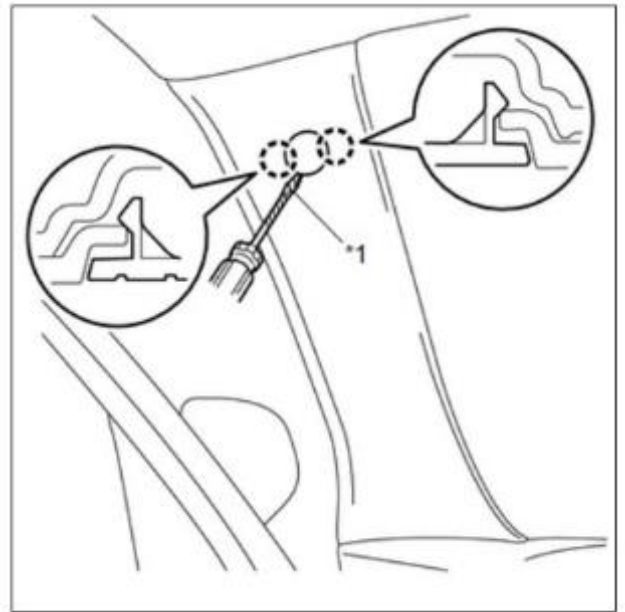

Figure 12a
- (a) Using a screwdriver, detach the 2 claws to remove the front pillar garnish cover LH (Figure 12a).